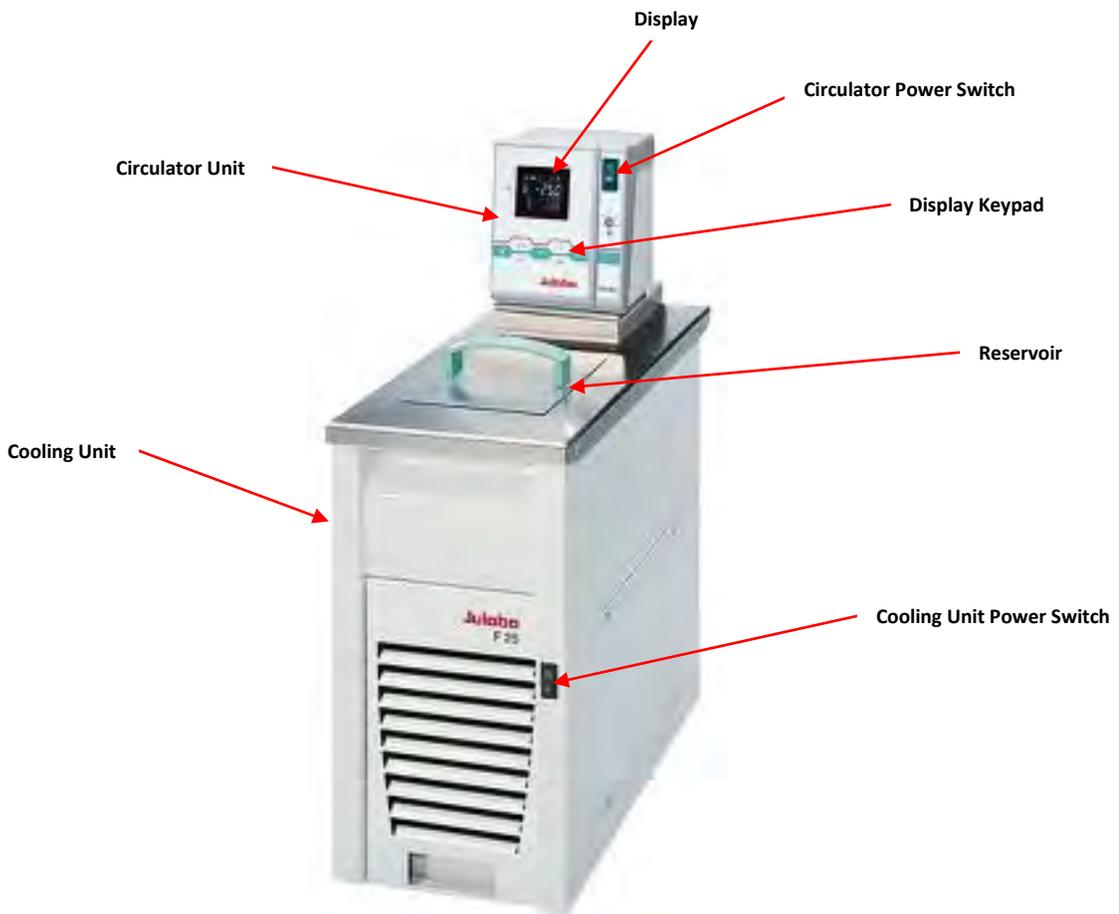

Figure D1 – External Cooler System (Front)
The external cooling system consists of two (2) components, the circulator unit and the cooling unit. Figure D1 shows the location of both components and important areas associated with each component.